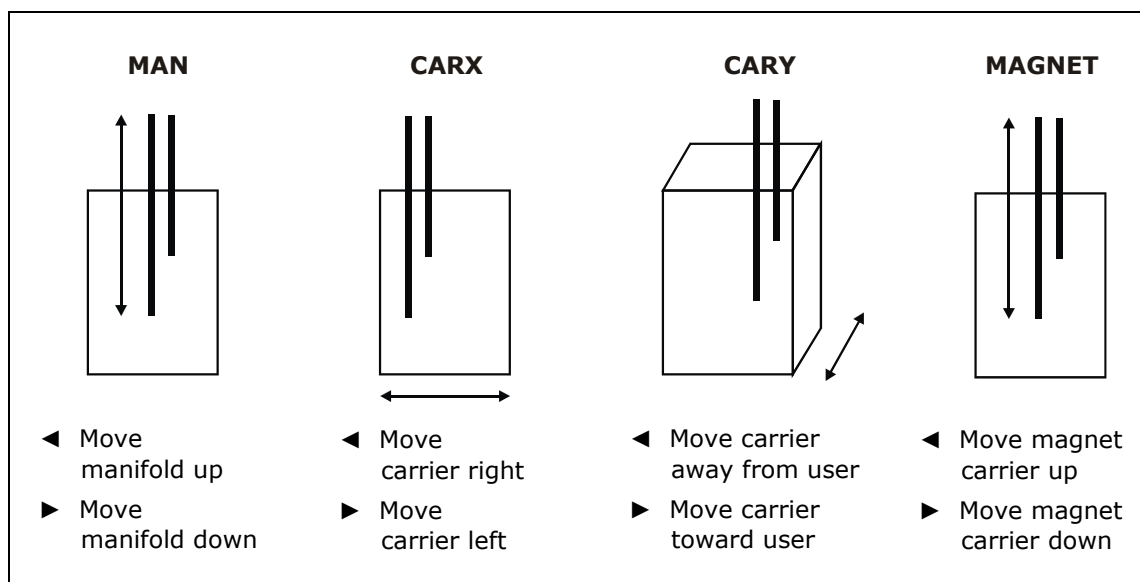

Figure 21: Using the Adjust Utility
6. Press the ◀ (reverse) key to single-step the offset in a negative direction, and the ▶ (forward) key to single-step the offset in a positive direction. See the examples in **Figure 21** on the following page.